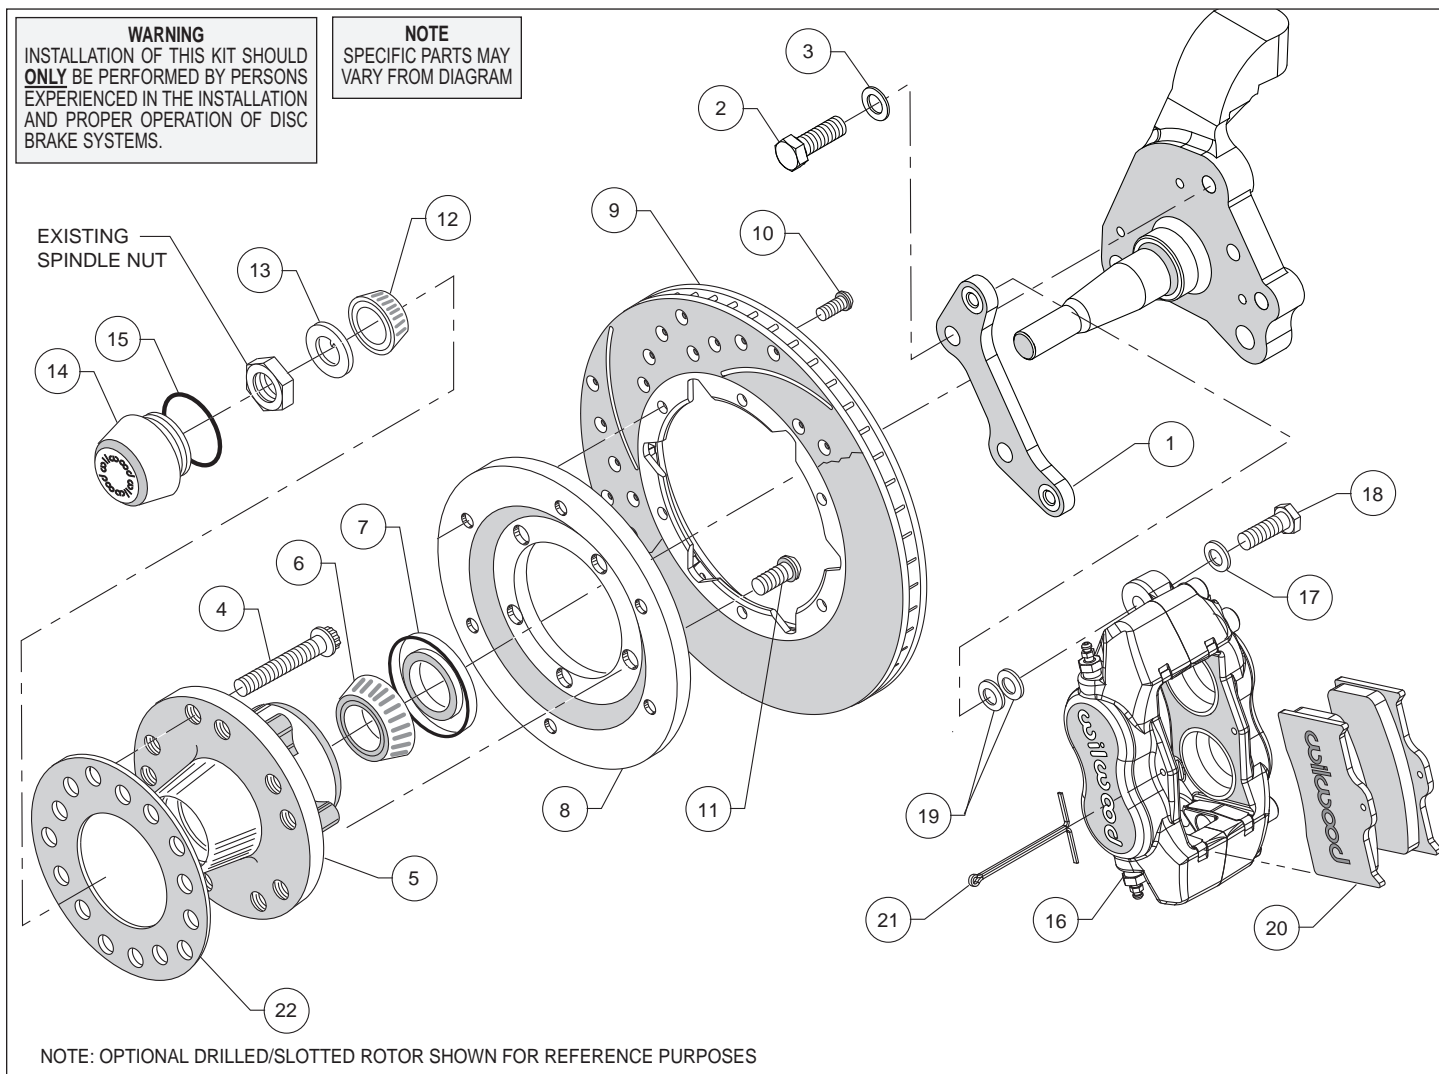
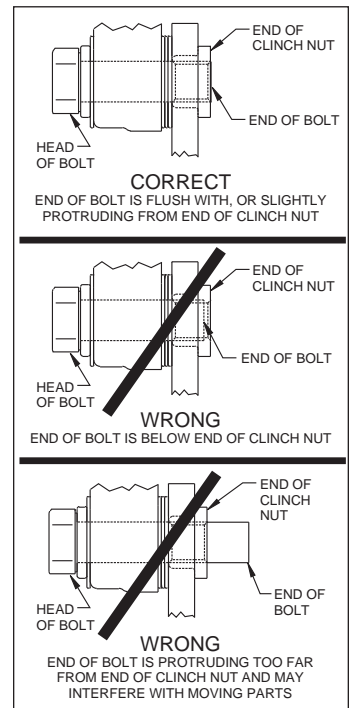

Figure 1. Typical Installation Configuration
Figure 3. Clinch Nut Engagement Diagram
**Assembly Instructions** (numbers in parenthesis refer to the parts list, on the preceding page and Figure 1): **CAUTION:** All mounting bolts must fully engage clinch nuts. Be sure to check that all bolts are either flush or protruding through flanged side of clinch nut after shimming, Figure 3.
- Align caliper mounting bracket (1) with the corresponding holes, to the face of the spindle. Attach using bolts (2), and washers (3), as shown in Figure 1 and Photo 1. Temporarily tighten the mounting bolts. Ensure that the flanged heads of the clinch nuts in the bracket are facing outboard, Photo 1. **NOTE:** The bracket must fit squarely against the mounting points on the spindle. Inspect for interference from casting irregularities, machining ridges, burrs, etc. Remove bolts one at a time, apply red *Loctite*® 271 to threads and torque to 77 ft-lbs.
- Install the grease seal (7) by pressing into the backside of the hub (5), flush with the end of the hub, Photo 3.
- Orient the rotor (9) and the rotor adapter (8) as shown in Figure 1 and Photo 4. Attach the rotor to the adapter using bolts (10). Using an alternating sequence, apply red *Loctite*® 271 to the threads, and torque to 25 ft-lb.
- Mount the adapter/rotor assembly (8/9) to the hub (5) using bolts (11), as shown in Figure 1 and Photo 5. Using an alternating sequence, apply red *Loctite*® 271 to the threads, and torque to 45 ft-lb.
- Screw dust cap (14) into hub (5), Photo 7. Friction created by the o-ring (15) on the dust cap keeps it from unscrewing. **NOTE:** The O.D. of the existing OEM spindle washer may be larger than the I.D. of the dust cap not allowing it to seat against the hub face. Therefore, use the spindle washer (13) supplied with the kit instead of the OEM washer.
- NOTE:** Please reference the caution statement at the beginning of the assembly instructions. Mount the caliper (16) onto the caliper mounting bracket (1) using bolts (18) and washers (17), as shown in Figure 1. Initially place two .035" thick shims (19) on each bolt between the caliper and the bracket, Photo 8. Temporarily tighten the mounting bolts and view the rotor (9) through the top opening of the caliper. The rotor should be centered in the caliper, Photo 9. If not, adjust by adding or subtracting shims between the bracket and the caliper. Always use the same amount of shims on each of the two mounting bolts. **NOTE:** The end of each bolt must be flush with or slightly protruding from the head of the clinch nut, as shown in Figure 3. If necessary place spare shims between washer (17) and caliper mounting ear to achieve the proper clinch nut engagement. Once the caliper alignment and clinch nut engagement are correct, remove the bolts one at a time, apply red *Loctite*® 271 to bolt threads, and torque to 40 ft-lb.